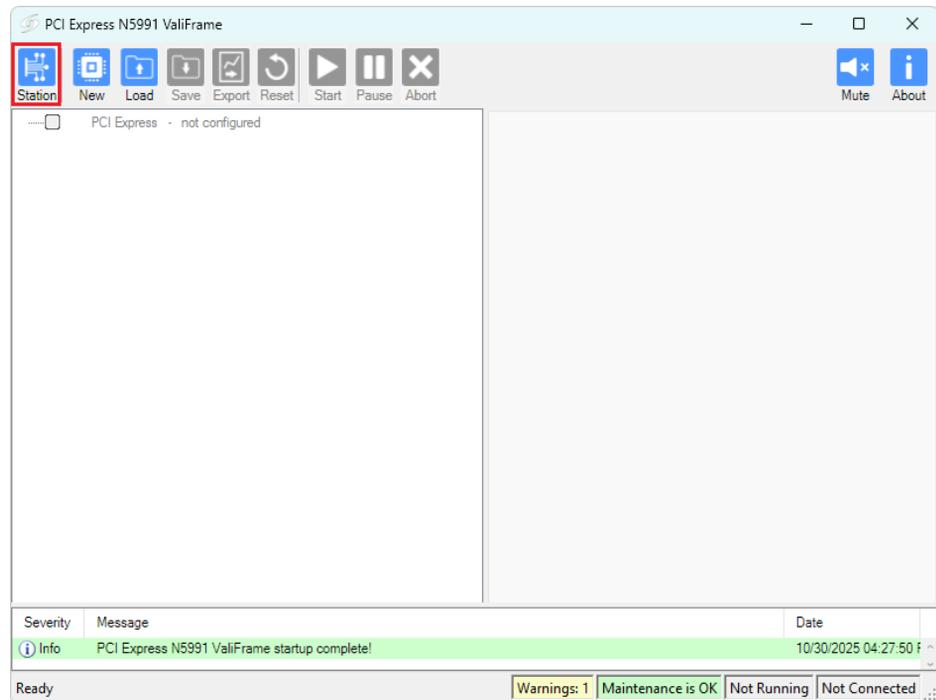
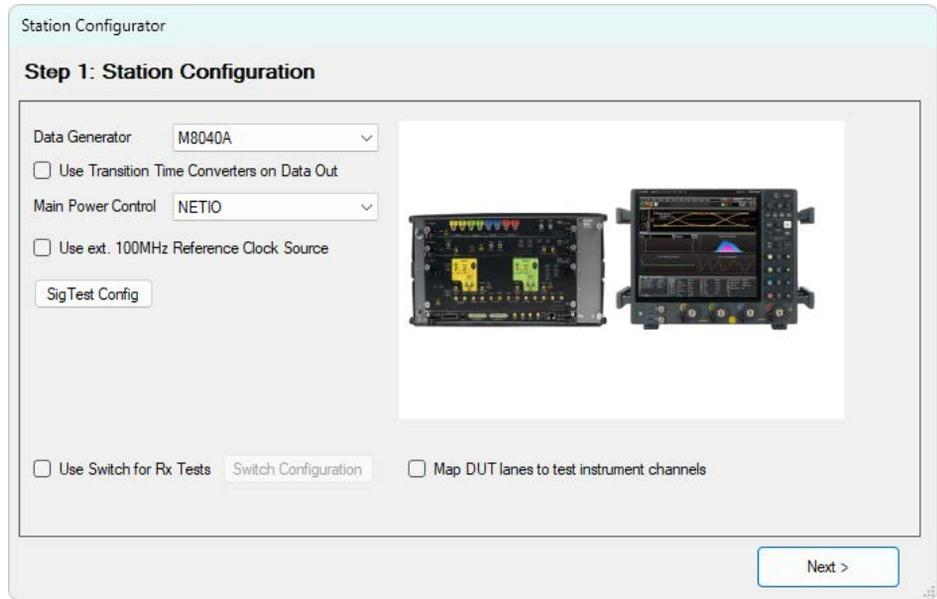
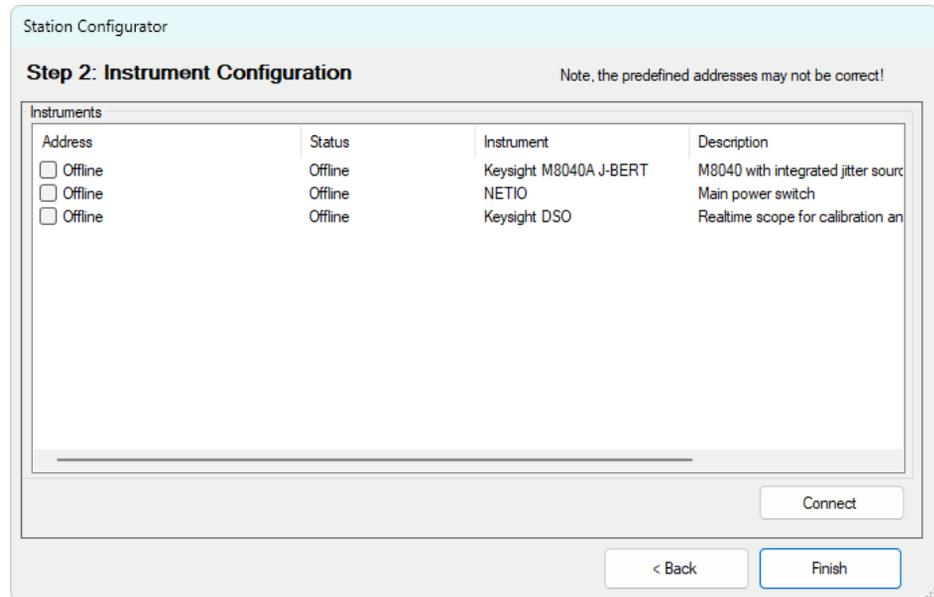
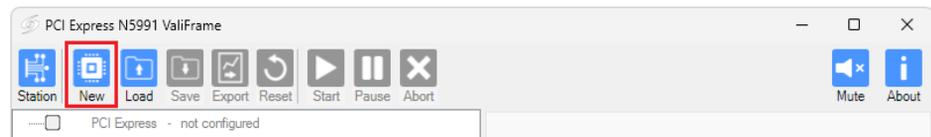

Figure 5-1 Example ValiFrame main window
Figure 5-2 Example Station Configuration window
Figure 5-3 Example Instrument Configuration window
Figure 5-5 Example ValiFrame main window (top)
In the main ValiFrame window that opens, click 'Station' (red frame in Figure 5-1) to open the Station Configuration window (Figure 5-2).
Once all required instruments have been selected, these are listed in the Instrument Configuration window (Figure 5-3).
- b Select the same instrument in the Instrument Configuration window (Figure 5-3) and paste the address in the corresponding Address text field.
After the test station has been configured, ValiFrame connects automatically to the instruments that are set to “Online” mode in the Instrument Configuration window (Figure 5-3). Once all the connections have been initialized successfully, you will see the ValiFrame main window (Figure 5-1). The top is shown again in Figure 5-5.
The next step is to configure the test parameters. Click New (red box in Figure 5-5) to open the Configure DUT or Configure Product dialog. The name depends on the standard.